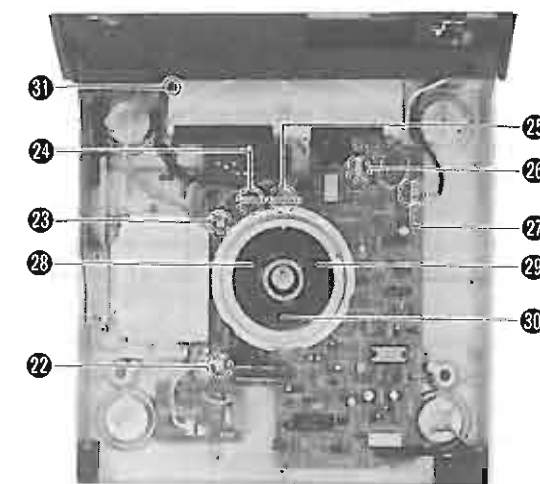

Fig. 9
3. Remove the 6 connectors ⑳ ~ ㉓ and stator cover setscrews ㉔ ~ ㉖. (See Fig. 9)
4. Remove the IC1 setscrew ㉗; then the drive P.C.B. can be removed. (See Fig. 9)